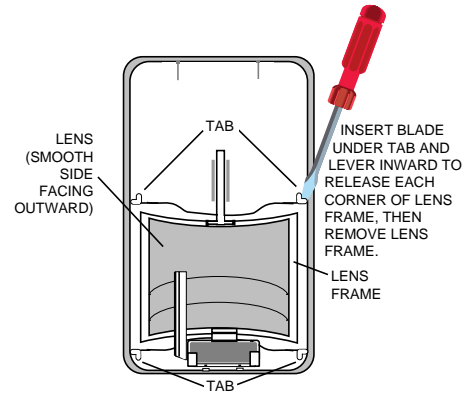

Figure 4. Changing Lenses
2. Release the lens support frame located in front cover as follows: insert the blade of a small screwdriver between the locking tab and the detector case in each of the four corners of the frame, and lever each tab upward to release. See Figure 4. When all four corners are released, remove the lens support frame.